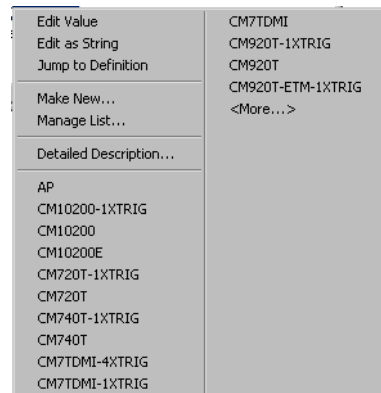

Figure 13-4 Linking a board
2. Right-click on the BoardChip_name setting, in the right pane, to display the **BoardChip** context menu shown in Figure 13-4 on page 13-8.
3. Right-click on the `BoardChip_name`, in the right pane, to display the **BoardChip** context menu shown in Figure 13-4 on page 13-8.